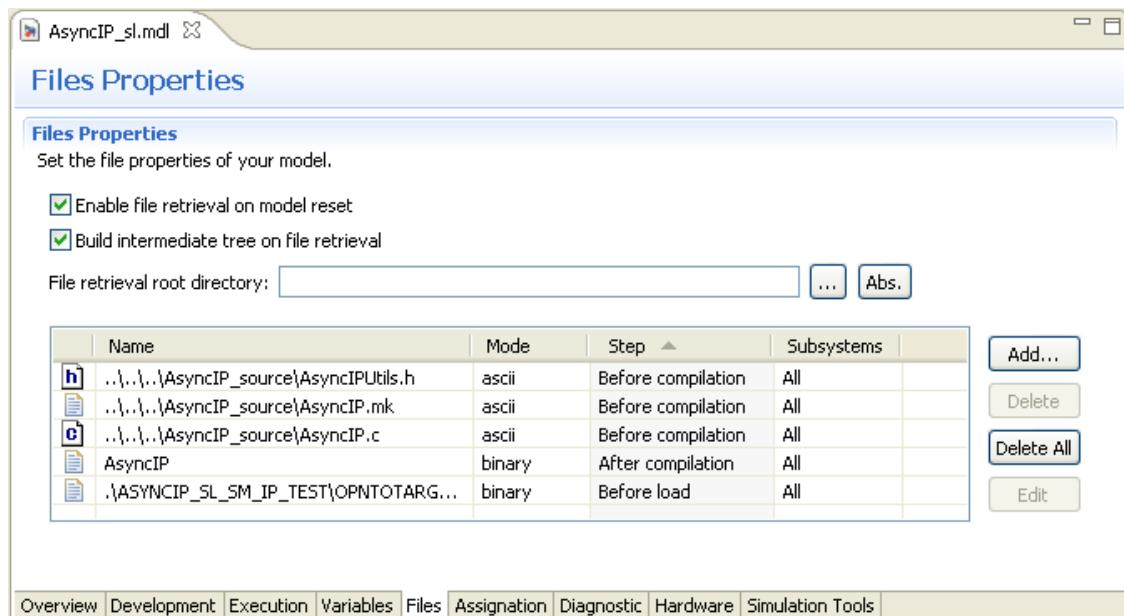

Figure 19:Specifying executable transfer at load time
2. On the Development page, under the Compiler option tab, specify the following command in the Compiler command text box as shown in Figure 19. The compilation command is: